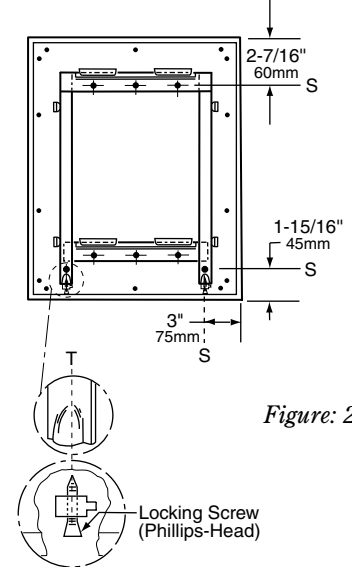

Figure: 2
**Frame** — 18-8 S, type 304, heavy-gauge stainless steel, 3/4" x 3/4" (19 x 19mm) angle with vertical-grain satin finish. One-piece, roll-formed construction forms continuous integral stiffener on all sides. Bevel design on front of angle holds frame tightly against mirror. Corners of mirror frame are heliarc welded, ground and polish smooth. Galvanized steel back is fastened to frame with concealed screws and equipped with integral horizontal hanging brackets near the top and bottom of the mirror for hanging the mirror and to prevent the mirror from pulling away from the wall. Locking devices secure mirror to concealed wall hanger. In Screw Locking Design (see figure 2), concealed Philips-head locking screws securely fasten mirror to wall hanger.